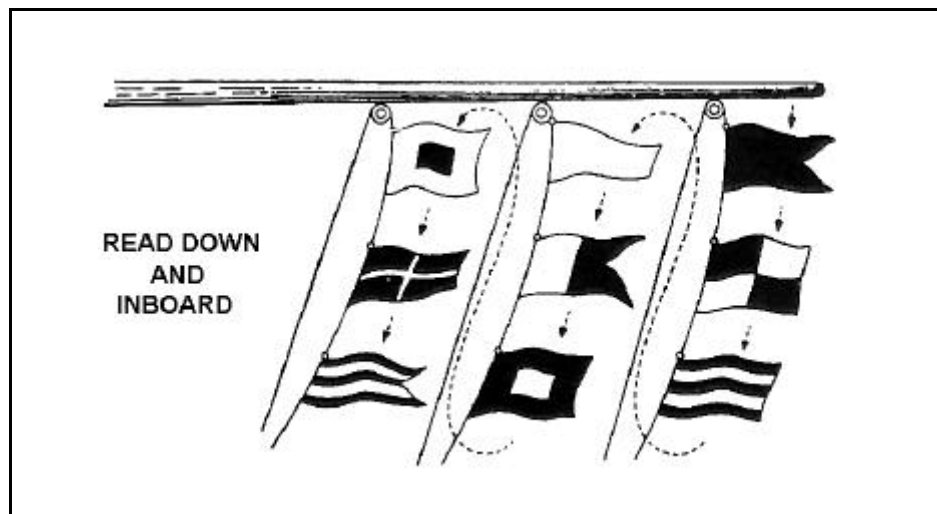

Figure 9-7. Order of Reading Flag Hoists on Yardarm
- When more than one hoist is shown on the same yardarm, read from outboard to inboard (Figure 9-7).